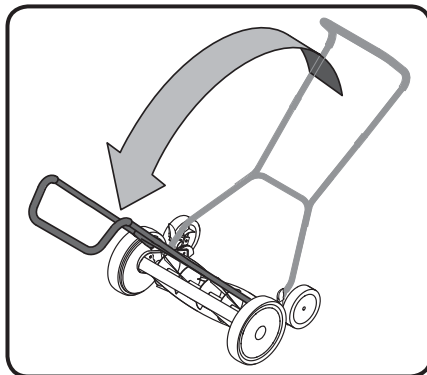

Fig. 5
- During normal operation, the blade reel will turn anytime the mower's front wheels are turning. To safely move the mower from one location to another without the blade reel turning, simply pivot the handle over the reel and push the mower from the opposite side (Fig. 5). Pushing the mower in this manner (transport mode) prohibits the blade reel from turning.